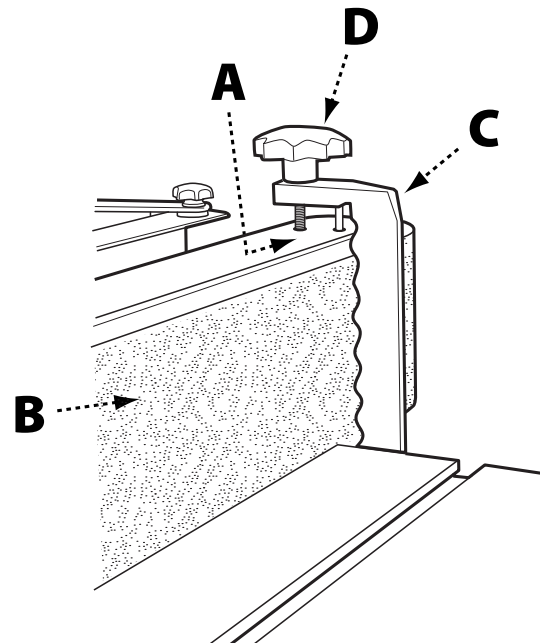

FIGURE 8
1. Locate the two holes (A) on the right hand side of the top of the sanding platen. See Figure 8.
2. Insert the pin of the workpiece support (C) into the hole closest to the front.
3. Secure the workpiece support to the sanding platen by screwing the (35mm) lock knob (D) into the tapped hole closest to the rear.
4. Ensure the workpiece support is as close to the sanding belt (B) as possible without touching it.